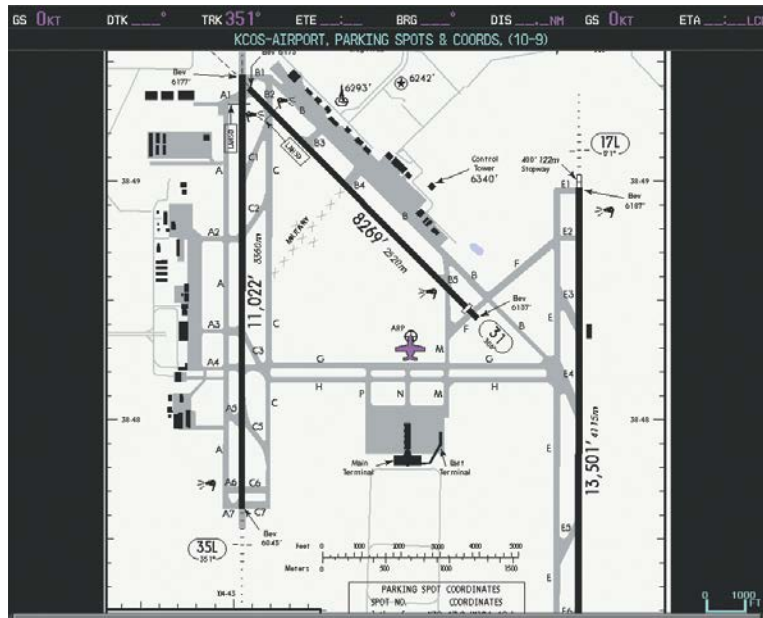

Figure 8-10 Airport Chart for Selected Airport
- 3) Touch the **Airport Chart** Button. The **Info** Tab selections are displayed on the Touchscreen Controller (Figure 8-9) and the Airport Diagram is displayed on the selected Display Pane (Figure 8-10).